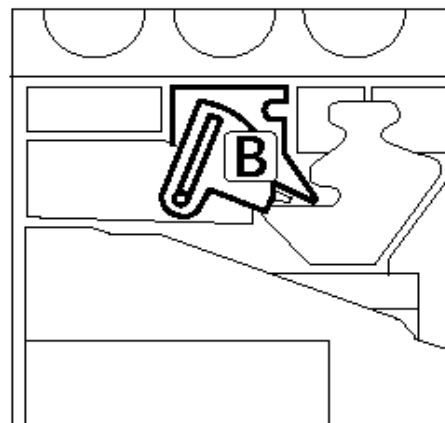
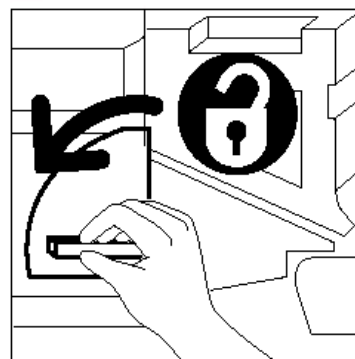

Figure 28: The gold latch release (B)
Figure 29: Unlocking the Copy/Print Cartridge
- 2 Rotate the Copy/Print Cartridge gold latch release (area B) anti-clockwise to its unlocked position, as illustrated in Figure 28 and Figure 29.
NOTE: The “B” pictured on the release in Figure 28 is actually on the cartridge.